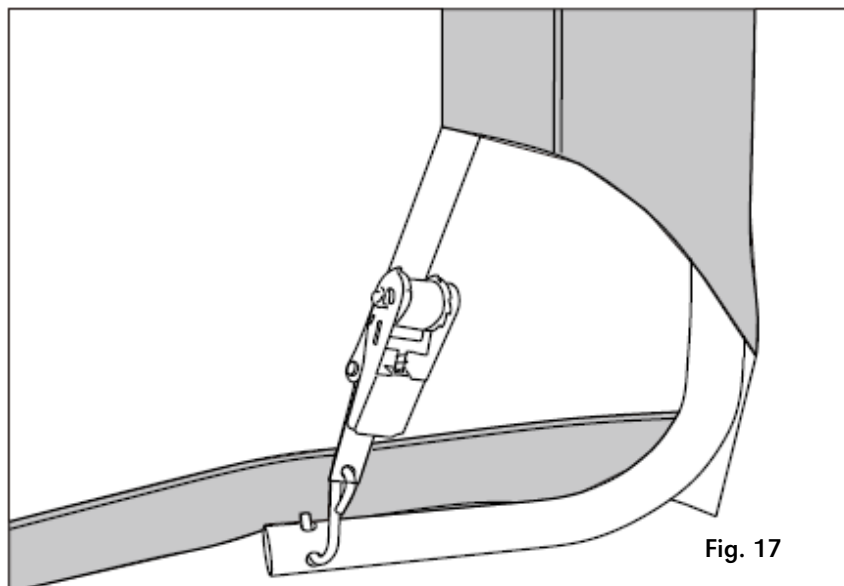

Fig. 17
Insert the S-hook of the ratchet into the hole of the bent corner leg (3). Pump the ratchet handle repeatedly to tighten the strap (fig. 17).